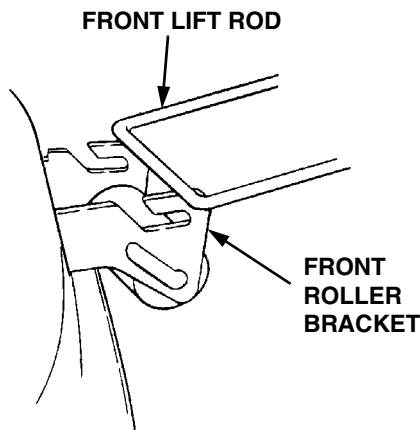

Figure 41
- Slide the cutting deck toward the front of the tractor to lift the front lift rod from the roller bracket slots at the front of the deck, then slide the deck rearward so that the hanger rod will not engage the roller bracket slots. (See Figure 41).